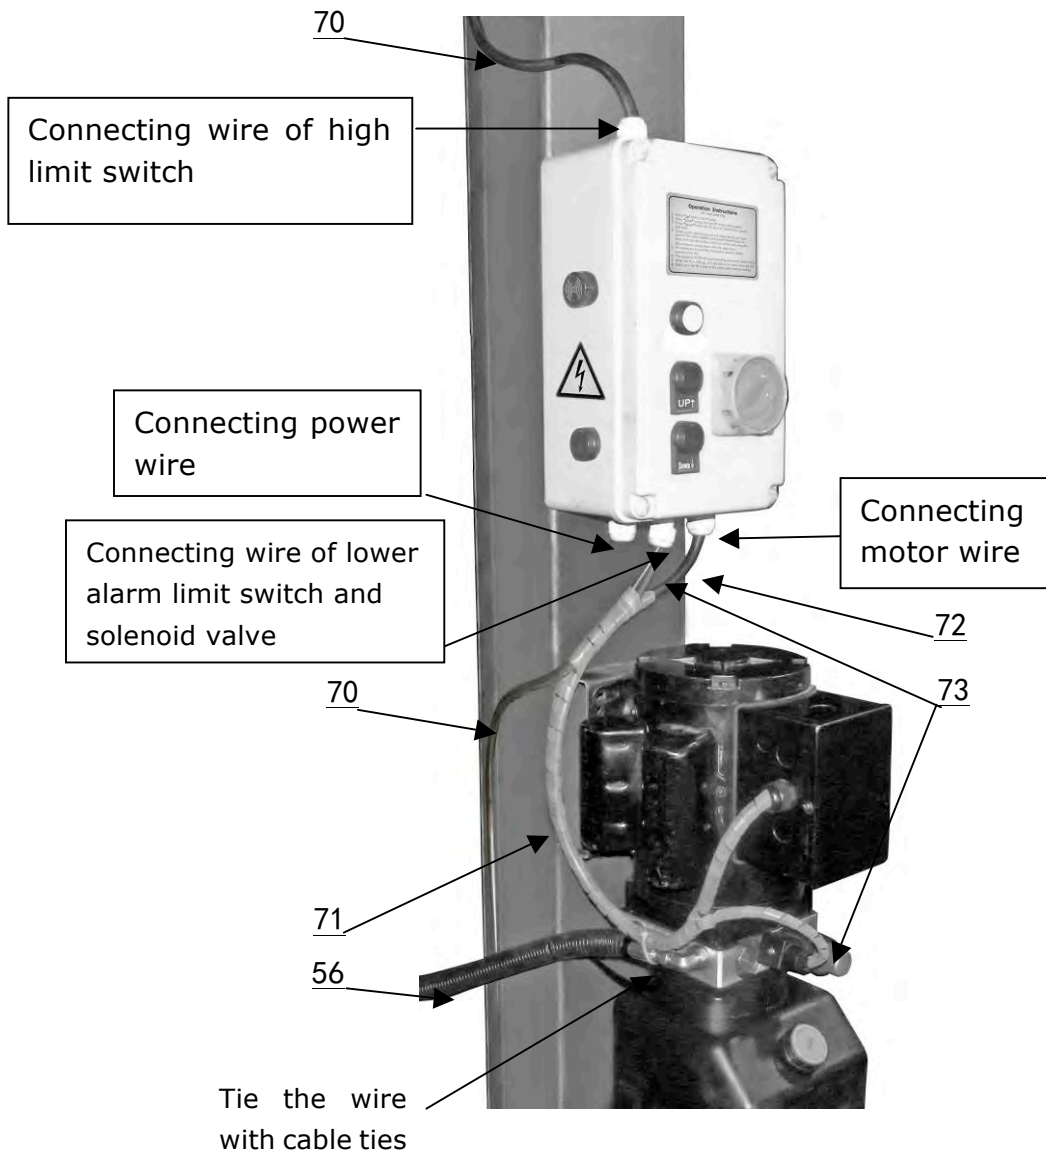

Fig.28
1. Connecting wire with control box. (See. Fig.28)